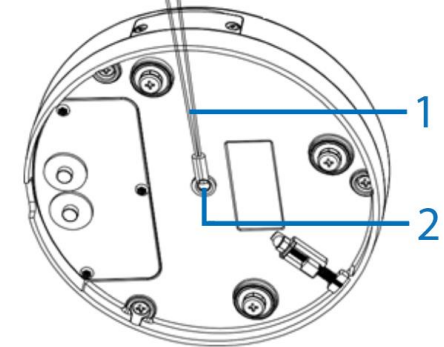

Figure 9
- Use a screwdriver to remove the safety wire screw (2) (Figure 9) on the camera.
- Insert the safety wire screw into the 'loop' at the end of the safety wire (1) (Figure 9) and then insert the screw back into the hole on the camera.